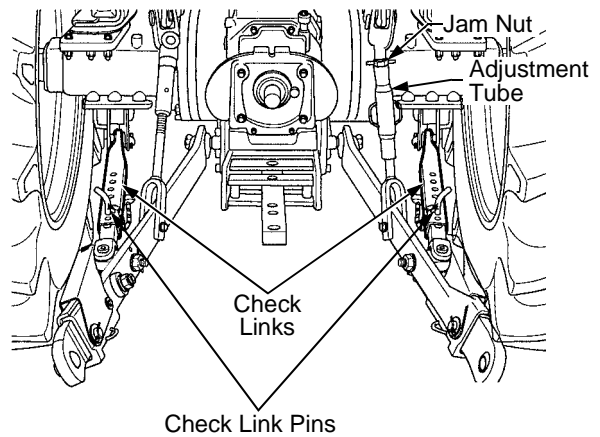

Figure 36
- Loosen the jam nut on the right lift rod and adjust its length as necessary to level the two lower links. Re-tighten the jam nut. See Figure 36.